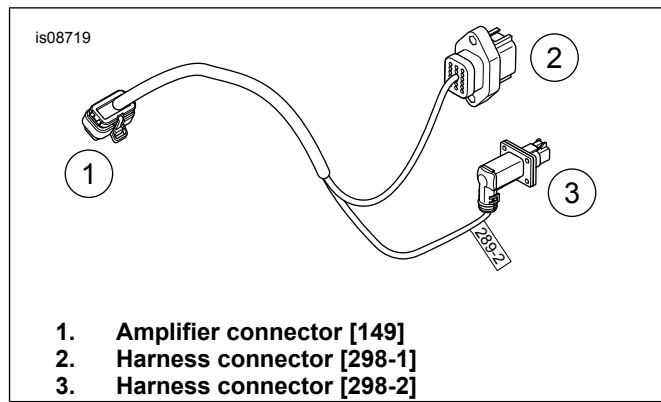

Figure 10. Wire Harness, Amplifier to Lower Speaker Connector Installation
1. See Figure 10. Plug in connector (1) [149] of the saddlebag harness to the top of the amplifier. Route the saddlebag side harness inside the left saddlebag. Clean the inside bottom and side surfaces of the saddlebag along the harness path with a 50-50 mixture of isopropyl alcohol and distilled water. Secure with cable straps and bases as shown.